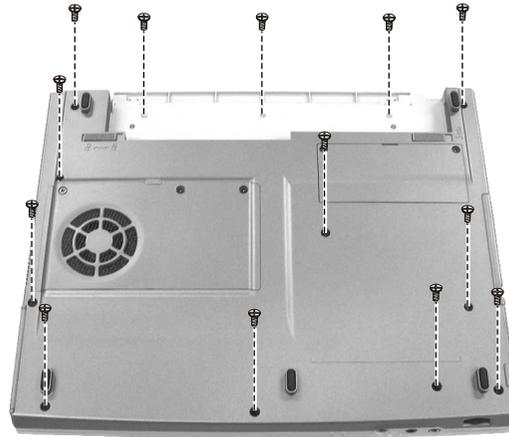

Figure 2-4 Remove screws to
2. Remove thirteen button screws as shown below. (See Figure 2-4)